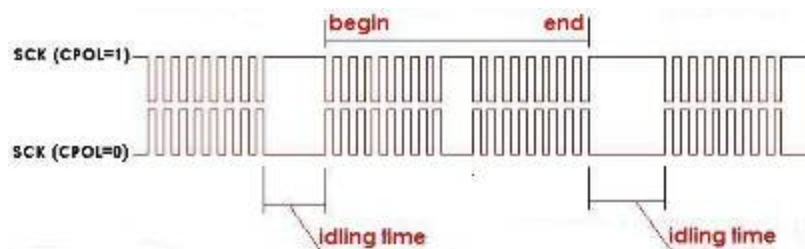

Fig 4-85 – Idling Time
(5) Click on the “Don't care data bit” function. The system will restart and count from the beginning of the data bits when the condition of the idling time setting is qualified.
- (6) Click off the “Don't care data bit” function, the system will decode the data stream until the bits of the data are received completely, when the condition of the idling time setting is qualified.
- (7) Press “OK” to confirm the setup of SPI Custom Setting and return to the dialog box of the SPI Setting. (**Tip:** Press “Default” to reset the current setup)
Step6. Click **Run** to acquire the SPI signal from the tested SPI circuit. Refer to the Fig 4-85.